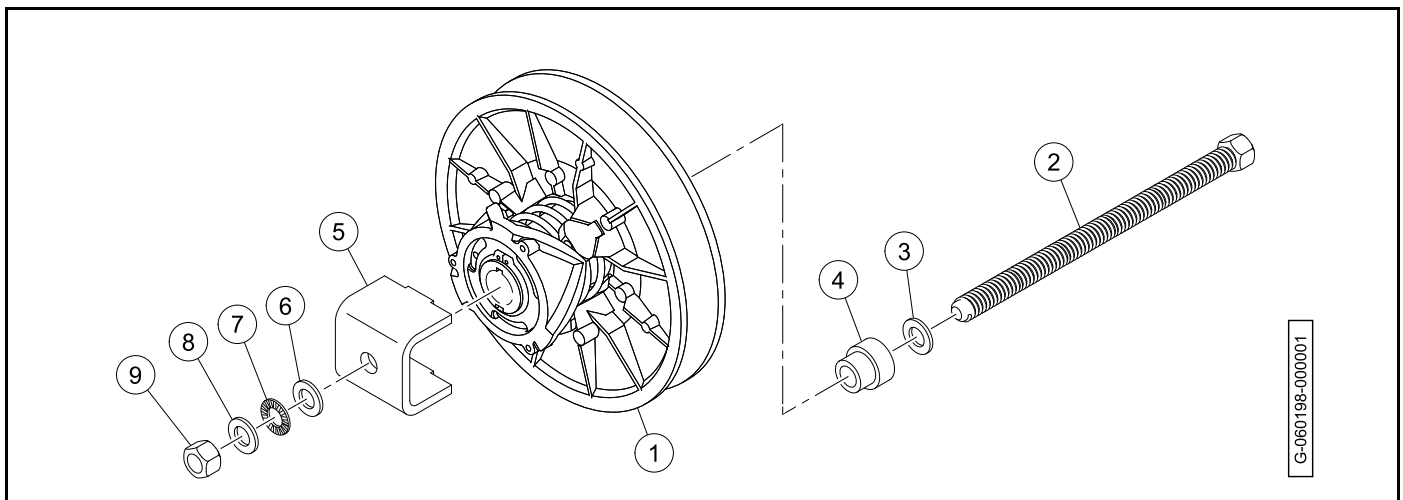

Figure 23-14 Driven Clutch Tool - Disassembly
2. Set the edge of the clutch body (1) on a clean, flat surface (**Figure 23-14, Page 23-13**).